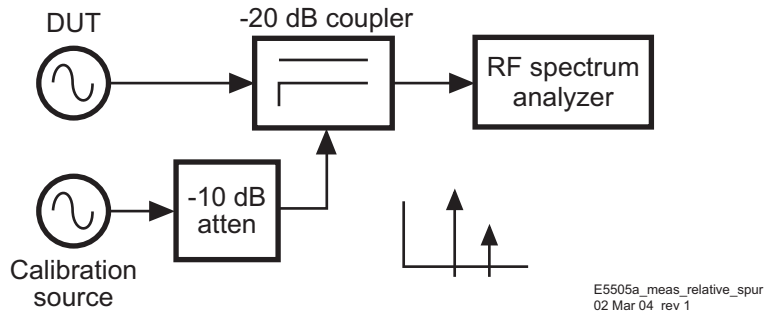

Figure 235 Measuring relative spur level
- 3 Measure the carrier-to-single-sided-spur ratio and the spur offset at the input to the AM detector with an RF spectrum analyzer. See Figure 235 on